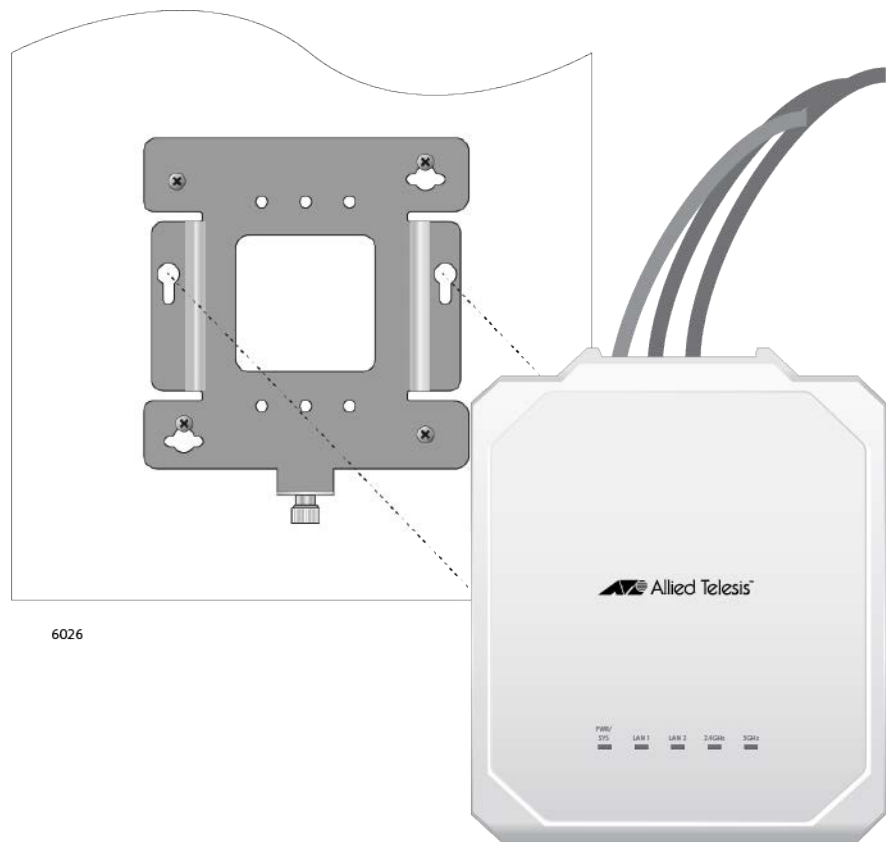

Figure 25. Installing the Access Point on the Mounting Bracket
1. Align the bottom of the access point over the bracket so that the two screws on the bottom of the device fit into the bracket keyholes. Refer to Figure 25. (These are the two access point chassis screws installed in “Pre-fitting the Mounting Bracket on the Access Point” on page 34.)